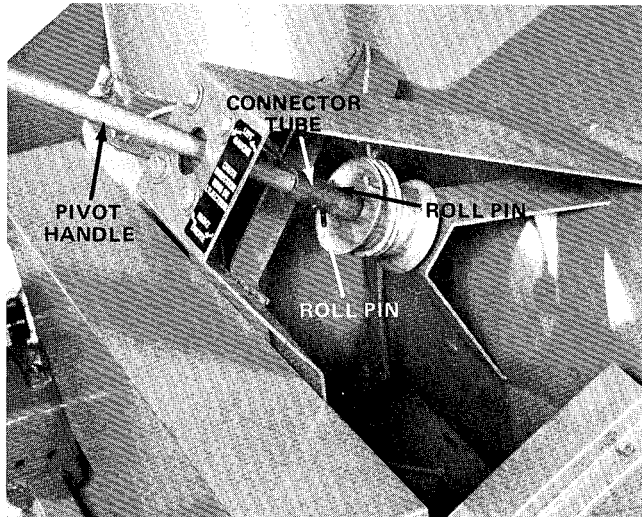

Figure 7
8. Mount chute pivot handle to connector tube on cable pulley with roll pin (Fig. 7).